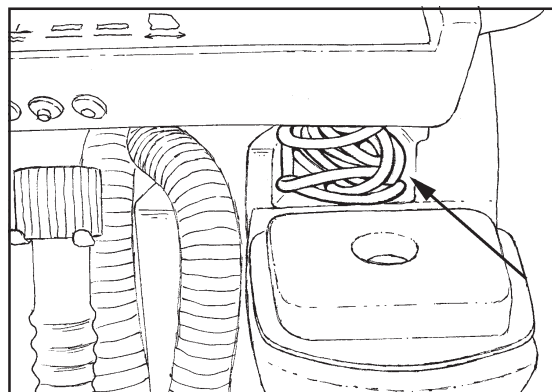

Figure 29
2. Store AC power cord to charger in machine storage compartment (See Figure 29).